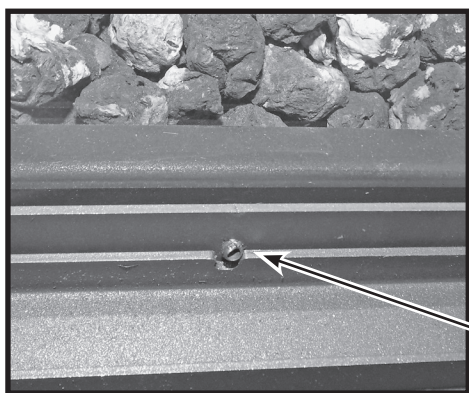

Figure 52: Glass panel position tab.
2. Align the glass door frame laterally so that its protruding positioning stud (Figure 52) fits into the slot in the firebox. This will line up the bolt holes of the glass door frame to the firebox frame.